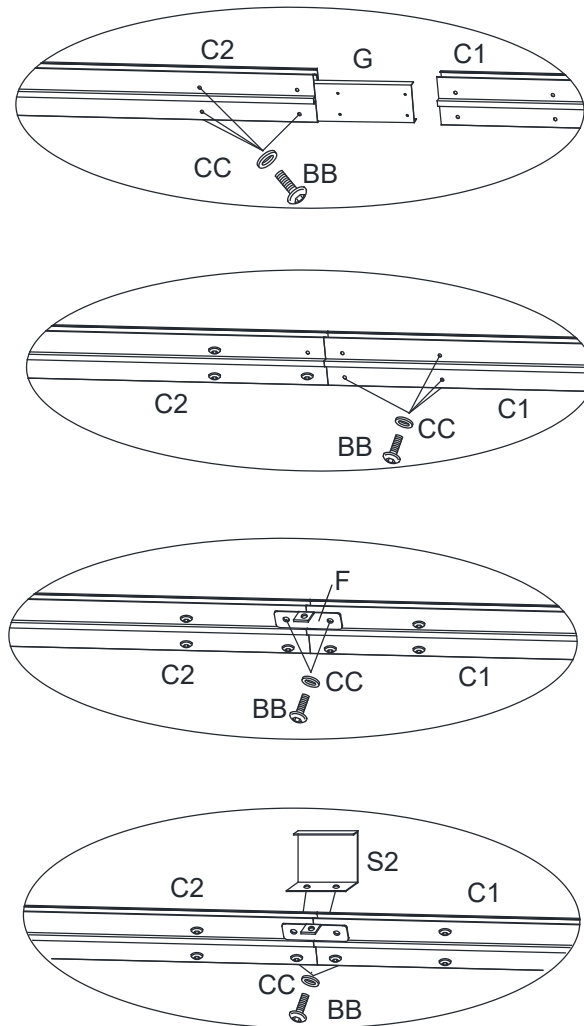

Fig.2.2
2.2. Connect the Short Left Lintel (C1) with the Short Right Lintel (C2) through the Lintel Connector - Large (G) with bolt (BB) and washer (CC), then connect the Connector (F) to the joint of the lintel (C1/C2) with bolt (BB) and washer (CC) , put the Lintel Cover - Center (S2) onto the joint of the two lintels with bolt (BB) and washer (CC), pay attention to install the screws based on the orders shown in the illustration. See.Fig.2.2